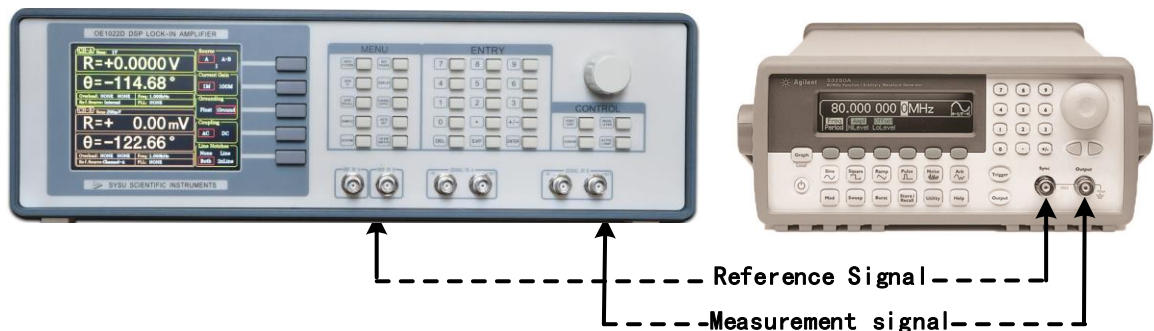

Fig.84 Signal Cable Connection Diagram
2. Use a BNC cable to connect the output of the function signal generator and the A/I input of the OE1022D. Use another BNC cable to connect the reference signal of the function signal generator and the REF IN of the OE1022D, as shown in Fig.84.